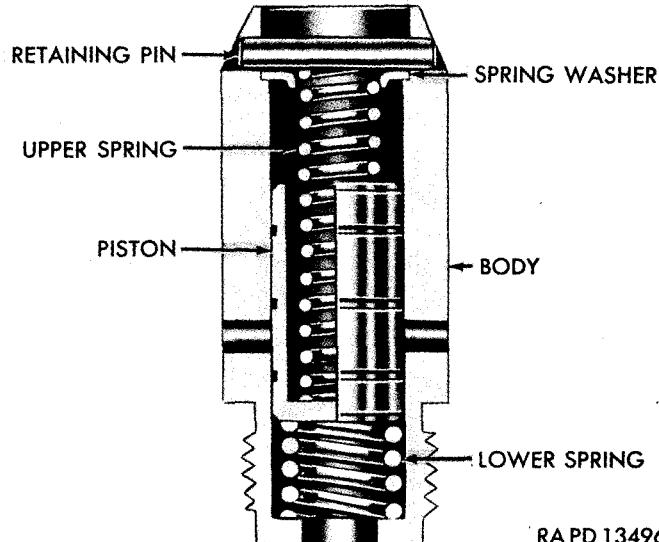
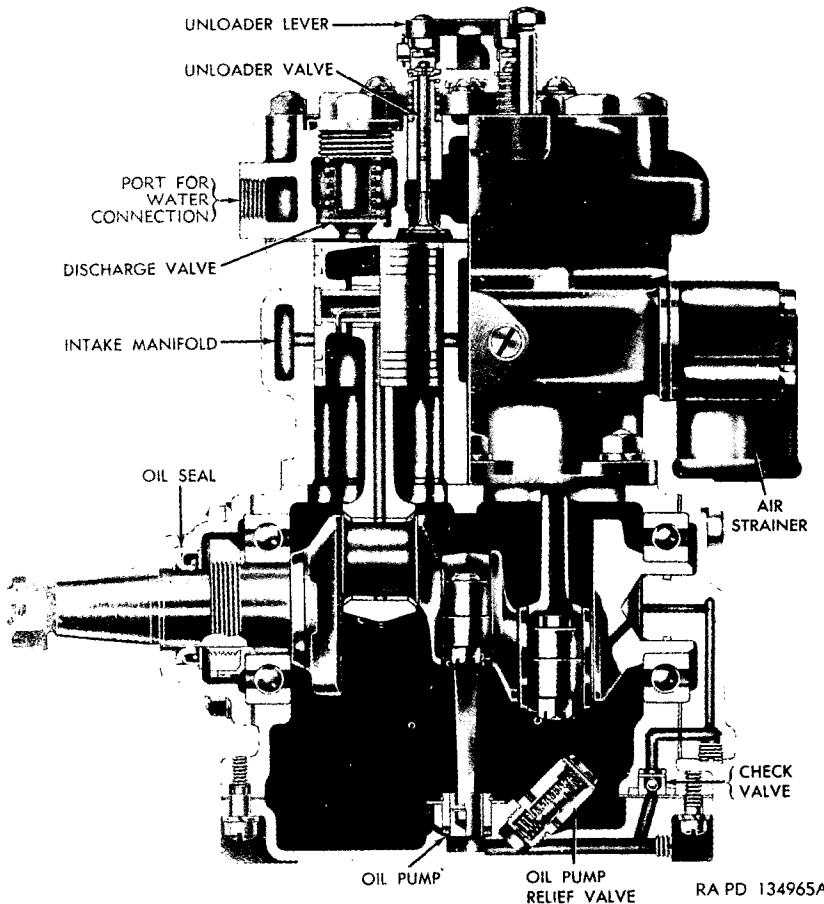

Figure 41. Oil pump relief valve—self-lubricated compressors.
Figure 44. Sectional view of 2-US-7 1/4-VW compressor.
(b) *Self-lubricated* (fig. 44). Check crankcase as in (a) above. Check condition of check valve in crankcase wall by blowing air pressure into oil passage from opening in end of crankcase. No leakage will be noticeable if valve is in good condition. Replace defective check valve. Check crankcase breather. It must be clean and unobstructed. Check crankcase base for cracks and broken lugs and replace, if defective. Examine oil pump screen and replace, if damaged in any way. Check fit of oil pump piston in its cylinder. Piston must be a sliding fit. If noticeable clearance is found, the piston, base plate, or both must be replaced. If oil pump cylinder is loose in base, the base plate assembly with cylinder must be replaced. Check oil pump relief valve (fig. 41). Unscrew check valve from base and drive out retaining pin at top of valve body (fig. 41). Lift out upper spring, piston, and lower spring (fig. 41). Piston must be a sliding fit in body, with no evidence of binding.
(2) *Crankcase base* (fig. 44). When assembling oil pump relief valve, new springs are used. Place lower (short) spring in valve body and insert piston, with closed end on lower (short) spring (fig. 41). Insert upper (long) spring in piston, place spring washer on spring, compress spring, and insert retaining pin over spring washer (fig. 41). Test relief valve assembly with air pressure. The piston must rise sufficiently to begin to uncover ports in body when air pressure is between 14 psi and 24 psi maximum. If operation is correct, stake the retaining pin in body. Install relief valve in crankcase base and tighten securely. Position oil pump screen in base plate and install retaining ring. Install oil filler fitting (fig. 15) and blanking cover on sides of base plate, if they have been removed, being sure the oil filler fitting is positioned as marked before disassembly. Install a new oil pump check valve gasket in bottom of crankcase.